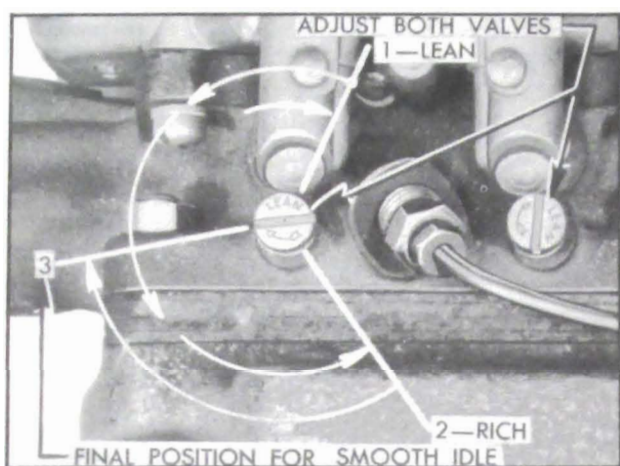

Figure 3-7—Adjustment of Idle Needle Valves
2. With engine at normal operating temperature and idling at 450 RPM, adjust one needle valve at a time (fig. 3-7) to provide smooth idle, as follows: